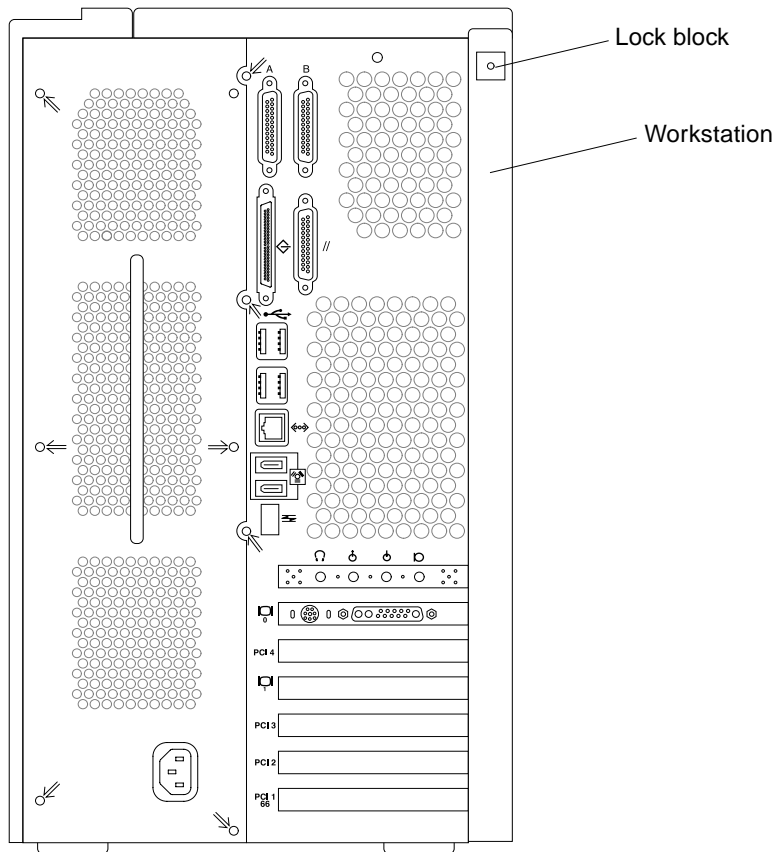

FIGURE 5-2 Lock Block Location
- 5. Remove the lock block, if one is installed (FIGURE 5-2).**